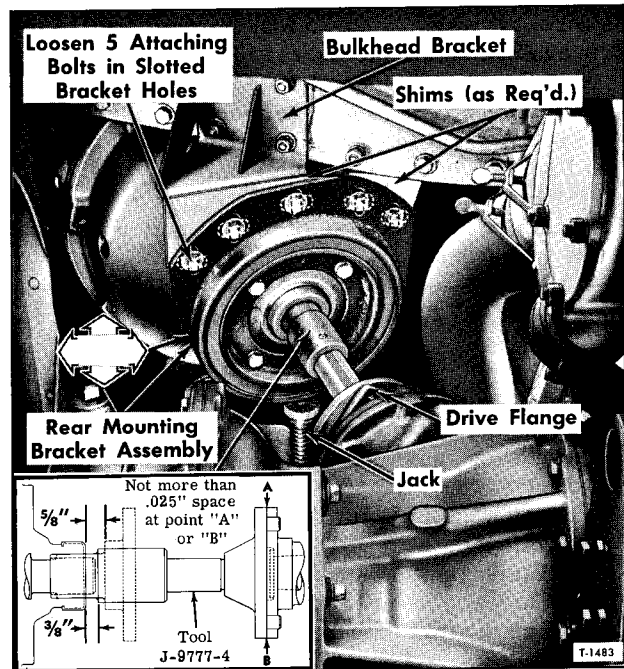

Figure 10—Compressor Alignment Tool Application
2. Insert tool sleeve over clutch shaft splines and through dust cap on clutch housing, then while holding tool sleeve, pull out flanged end and start pins into bolt holes in accessory drive flange (fig. 10). Shift the compressor assembly as necessary to permit full engagement of pins in flange bolt holes; then fully extend the aligning tool and tighten set screw to lock tool in extended position.
Check for misalignment both with tool pins in vertical position as shown in figure 10 and in horizontal position. Engine must be cranked with starter to position the accessory drive flange.
6. To hold rear end of compressor while checking alignment, place jack under rear mounting bracket assembly as shown in figure 10.